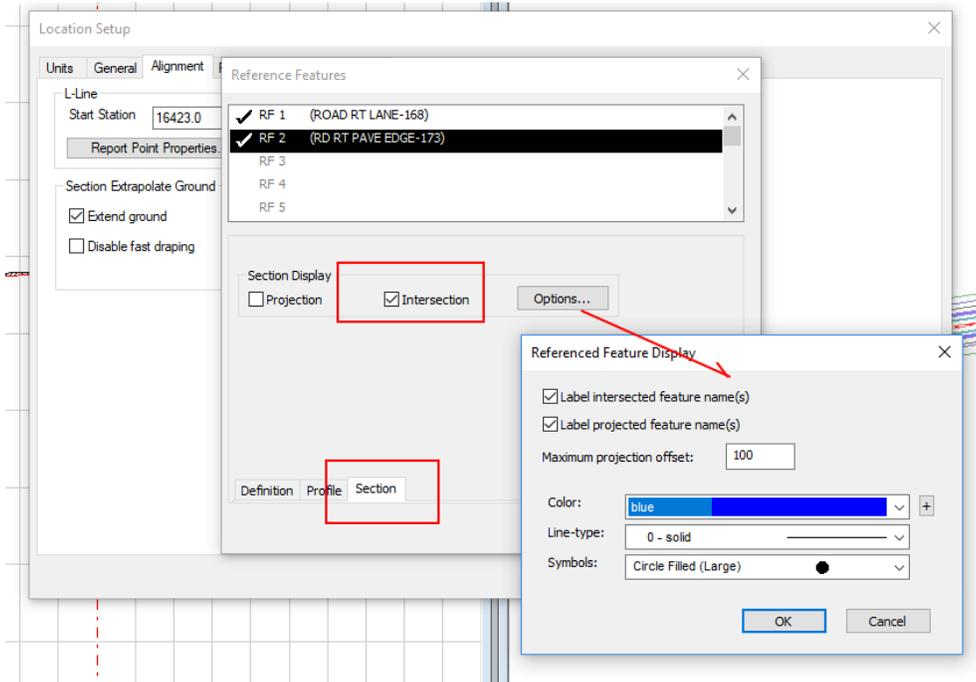

Figure 3 – Setting up Cross Section Display of Reference Features
3. For both the reference features, make sure the Section tab setting is set to Intersection and that an appropriate symbol is chosen to display the reference features (see Figure 3 and 4 below):